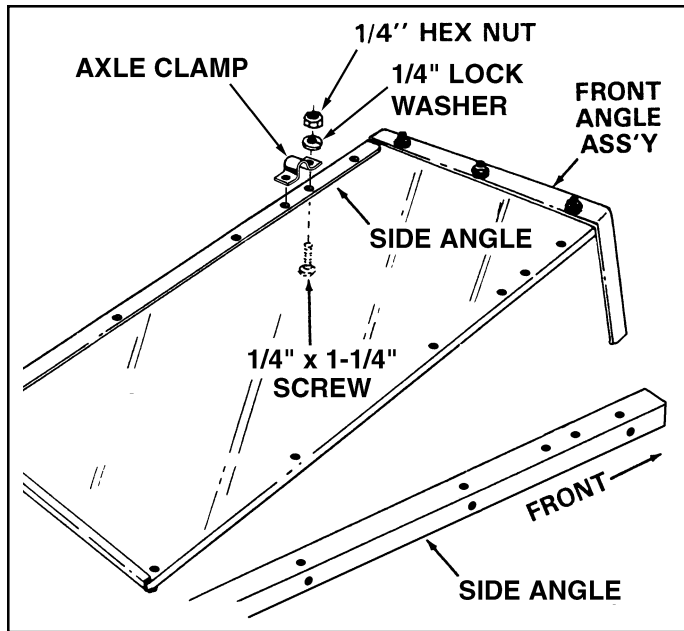

FIGURE 3
3. Turn the front angle assembly and bottom panel upside down as shown in figure 3.
4. Lay each side angle on the bottom panel so that the two holes (for the axle clamp) are closer to the front angle assembly. See figure 3.
5. Secure both axle clamps to the side angles and the bottom panel using four 1/4" x 1-1/4" screws, lock washers and hex nuts. **Make only finger tight** until the axle is assembled. See figure 3.